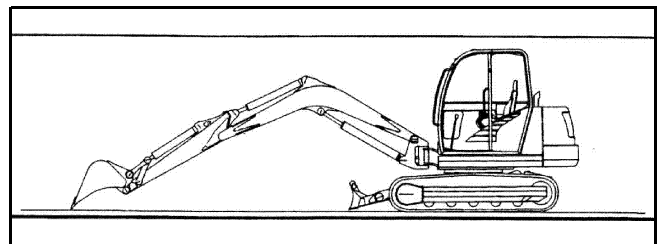

Figure 4-14 Checking and Changing Hydraulic Oil
2. Fully retract the bucket, dipper arm cylinders, and position the boom as shown in Figure 4-14.
3. Lower bucket and dozer blade to the ground. See Figure 4-14. Turn off the machine.
2. Fully retract the bucket and dipper arm cylinder, and position the boom as shown in Figure 4-14. Lower bucket and dozer blade to the ground. Stop the engine.